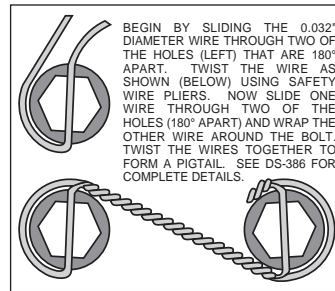

Figure 5. Safety Wire Diagram
- The hat/rotor assembly (5) has been pre-assembled at the factory using red *Loctite*® 271 on the mounting bolts and torqued to specification. For an added measure of security, the bolts may be safety wired using standard 0.032 inch diameter stainless steel safety wire as shown in Figure 5. Please refer to Wilwood's data sheet DS-386 (available at [www.wilwood.com/Pdf/DataSheets/ds386.pdf](http://www.wilwood.com/Pdf/DataSheets/ds386.pdf)) for complete safety wire installation instructions.
- Slide the rotor registration adapter (6) onto the axle flange with the smaller O.D. facing toward the rotor/hat, Photo 1.